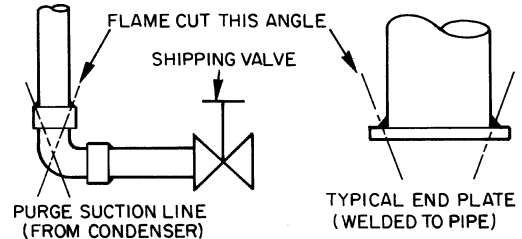

Fig. 2 — Weld Breaking Instructions
054-068	Generator-Condenser: At condenser-purge suction line (Fig. 2)
- Remove all piping end plates as shown in Fig. 2.